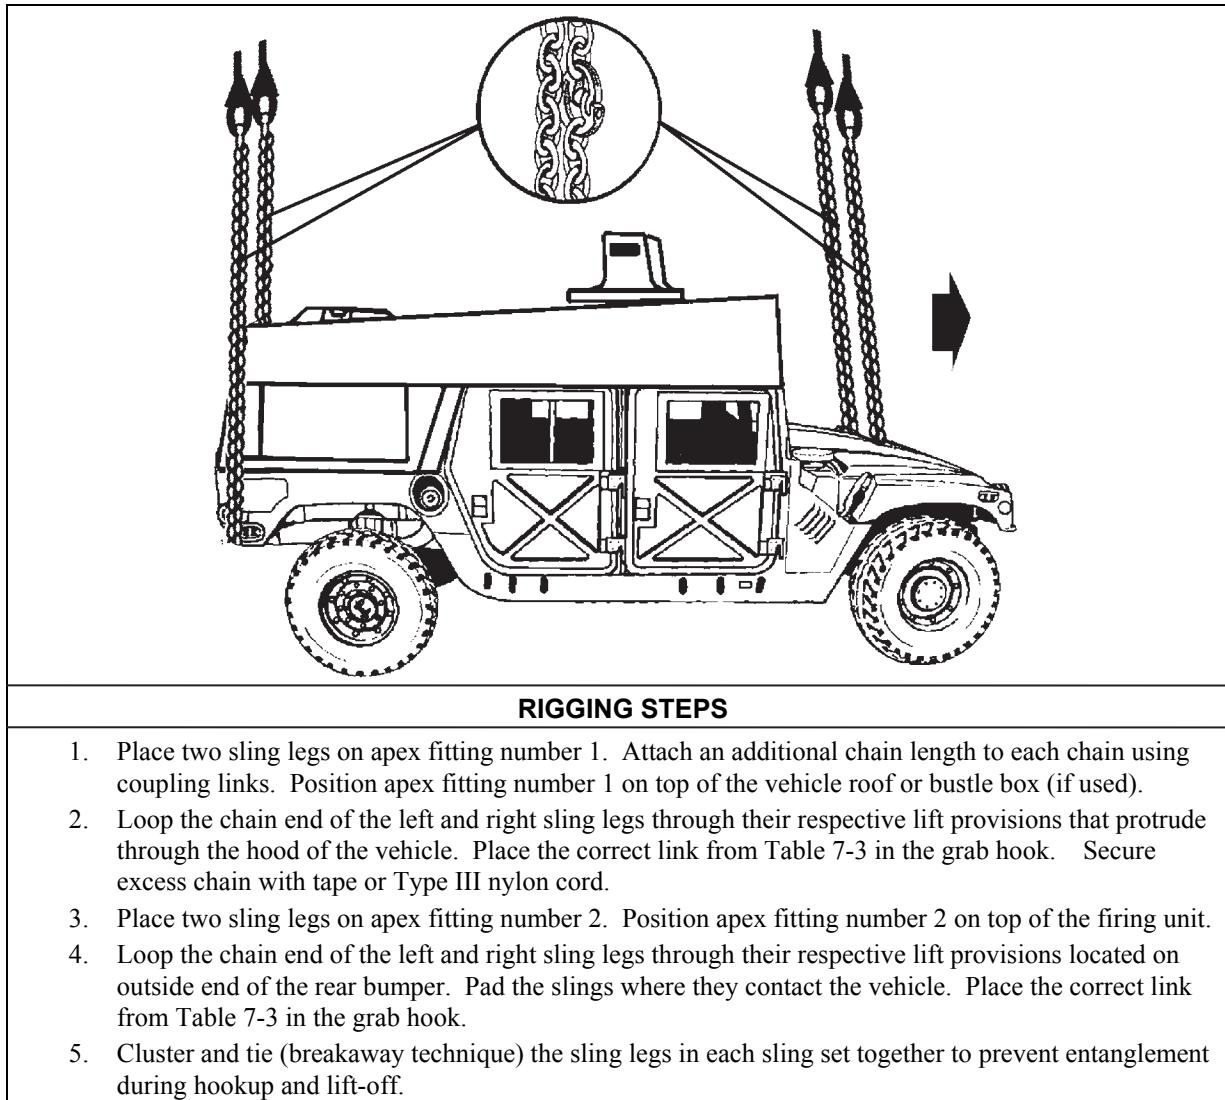

Figure 7-3. M1113 Truck, 1 1/4-Ton with Line of Sight Anti-Tank Fire Unit with Reloader Crane and Four Missiles
- **Rigging.** Rig the load according to the steps in Figure 7-3.